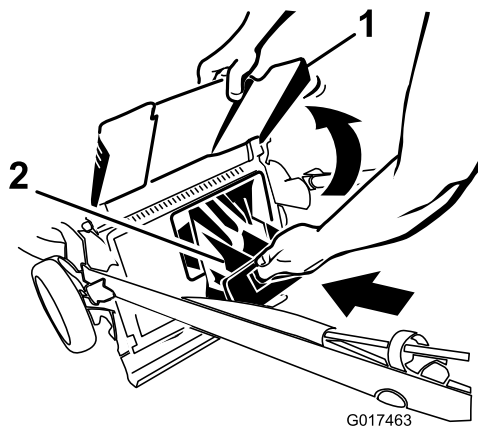

Figure 24
4. Install the rear-discharge plug (Figure 24).